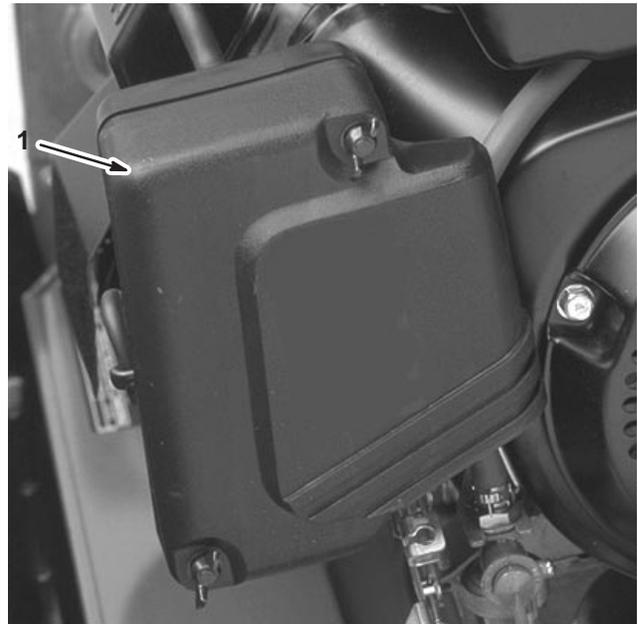

Figure 30
2. Remove the wing nuts securing the air cleaner cover to the air cleaner and remove the cover (Fig. 30).
3. Clean the cover thoroughly (Fig. 30).